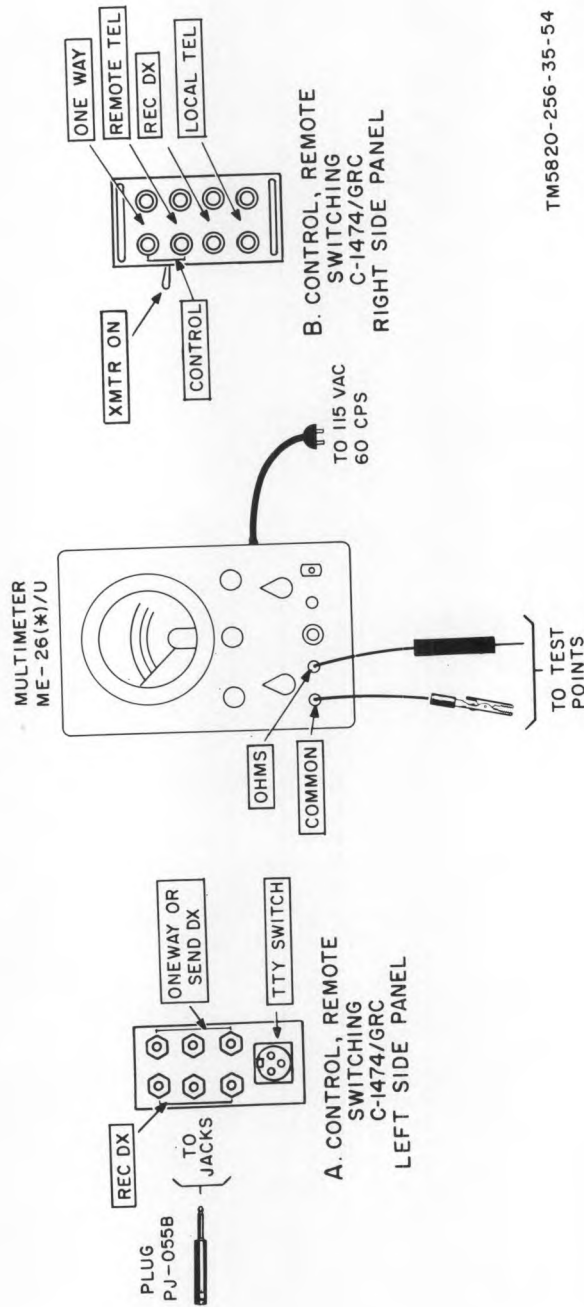

Figure 4-9. Control, Remote Switching C-1474/GRC, test setup.
(1) Multimeter ME-26(*)/U.
(2) Plug, Telephone PJ-055B.
b. Test Connections and Conditions. No cables are connected to the equipment under test. Refer to figure 4-9 for the test points.